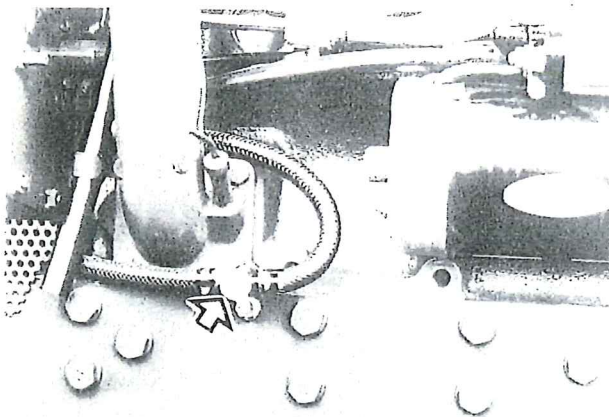

Figure 54 — Engine Block Drain Valve
1. Remove the radiator cap and open the drain valve at the engine block. The engine block drain valve is located on the left side of the engine. Figure 54.